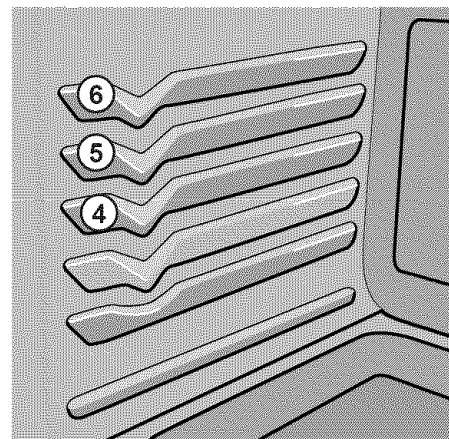

Fig. 2
2. Arrange the interior oven rack -p. 23 Figs. 2 & 3- for position recommendations. Be sure to place the prepared food and pan directly under broil burner. **Close the oven door.**